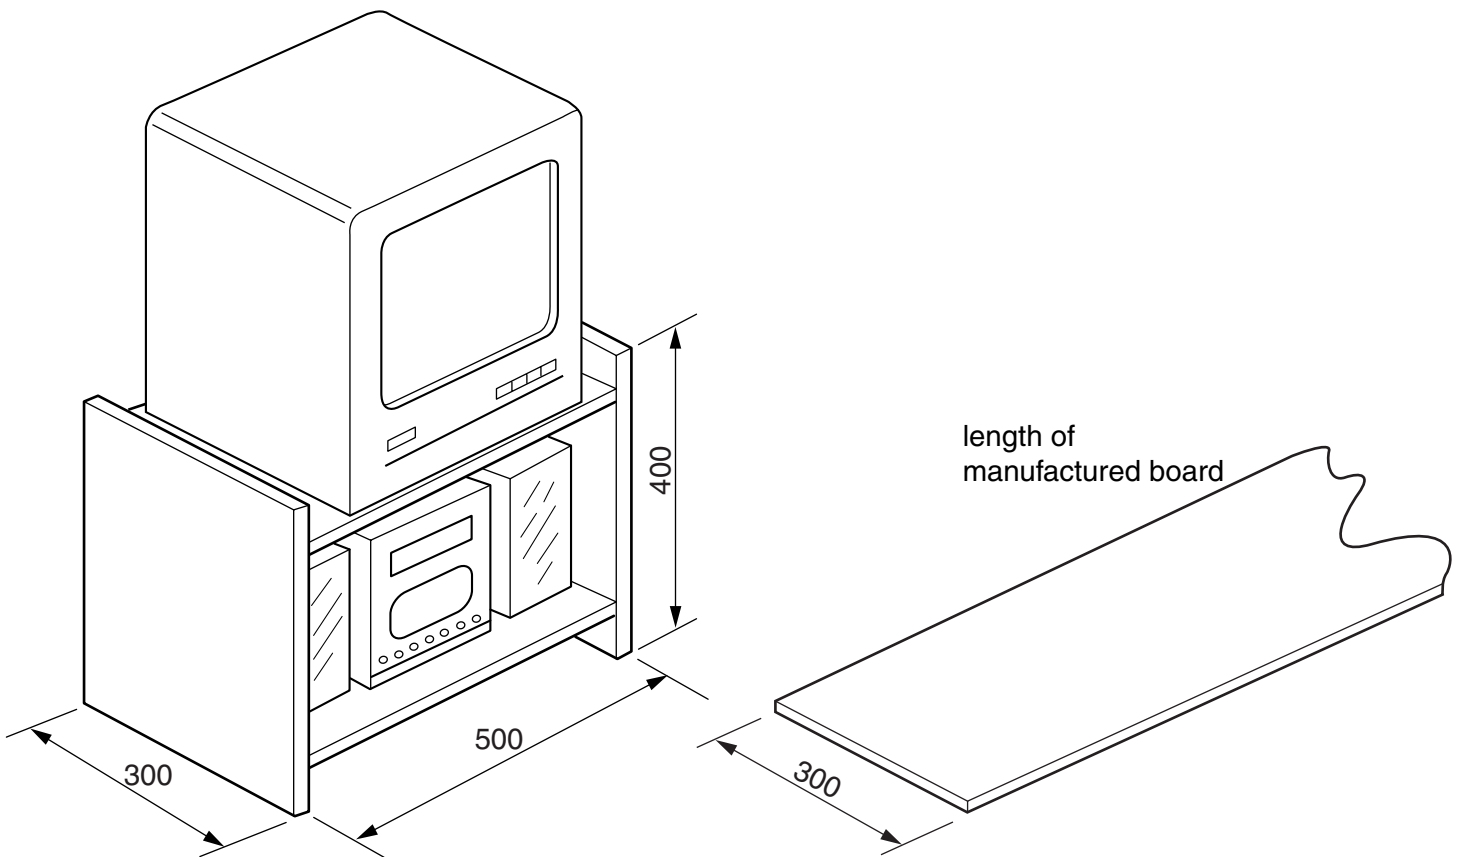

Fig. 1
- 1 Fig. 1 shows a TV and Hi-Fi unit made from a manufactured board with a spray painted finish. The unit will be produced as a flat pack ready for home assembly from the lengths of manufactured board shown.